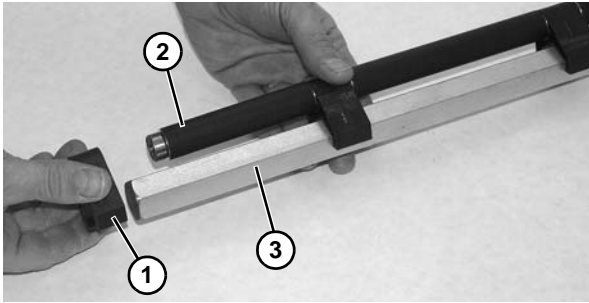

Figure 77
23. Remove spindle retainer (Figure 77, item 1), and each spindle assembly (Figure 77, item 2). from hex shaft (Figure 77, item 3).